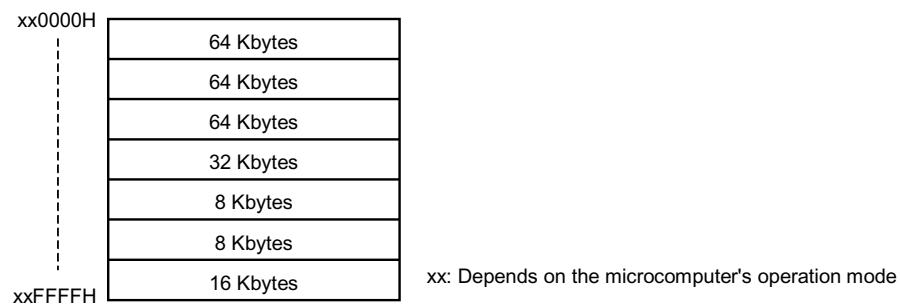

Figure 3.3.1 Block Structure of the Flash Memory
- Block structure (Refer to Figure 3.3.1.)